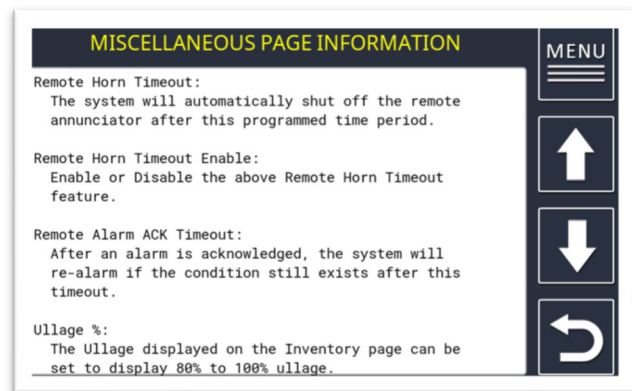

Figure 5.4
- g) **Information Icon (i in circle):** This will display a scrollable screen and details what each parameter does within MISCELLANEOUS SETTINGS. (See Figure 5.4).